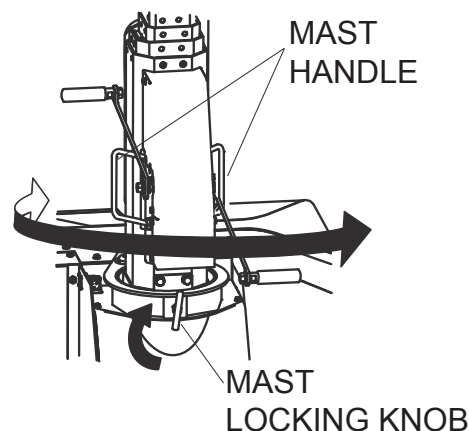

Figure 11. Rotating the Mast
5. With the mast in full vertical position, unscrew the mast locking knob to release the mast for rotation (Figure 11).